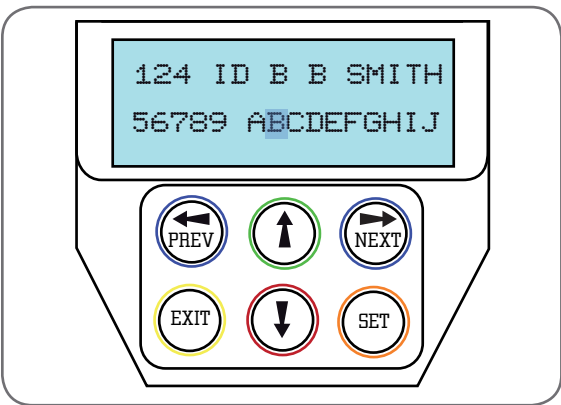

Fig F.5
- b. Press UP or DOWN arrows to scroll through and select a new character. (**Fig. F.5**)